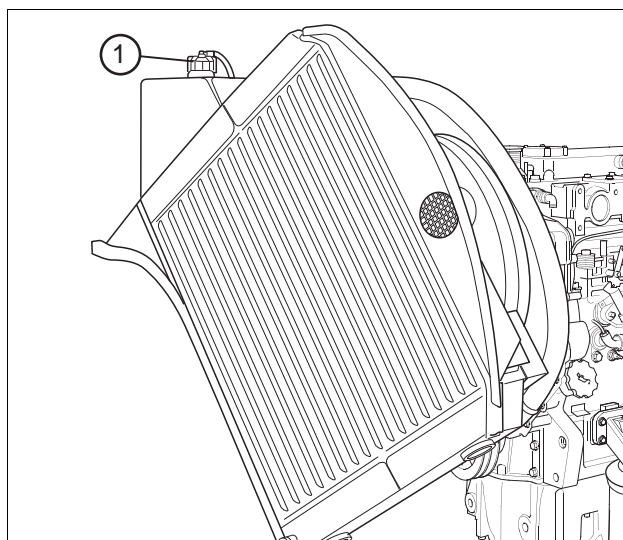

Fig. 37 Combined cooler
- Clean the combined cooler (Fig. 37) from the outlet side with compressed air.